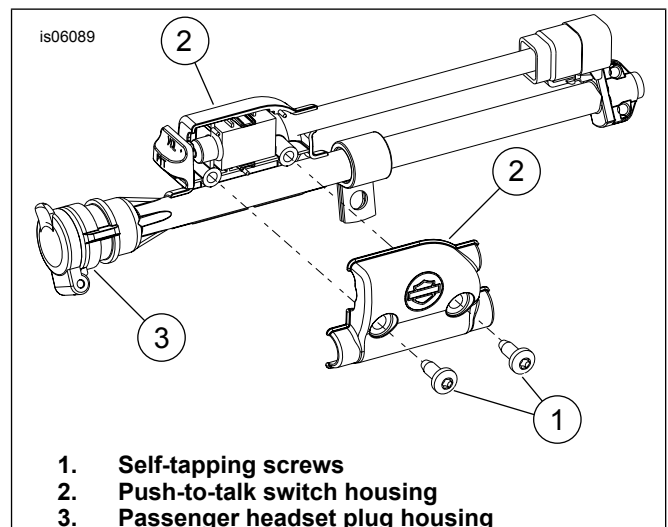

Figure 1. Install Push-to-Talk Switch Housing
1. See Figure 1. Install push-to-talk switch housing (2) to passenger headset plug housing (3), included as part of passenger headset wire harness (see Figure 7, Item 10).
3. Install self-tapping screws (1) to the switch housing but do not fully tighten at this time. Location adjustment may be required based on the motorcycle model, seats and accessories installed on the vehicle.
5. Connect the 8-way connector of the passenger headset wire harness (10) to the mating connector on the Non-Ultra Overlay Harness (installed in Step 1) marked "PASSENGER HEADSET".
6. Connect the 6-way connector of the PTT/VOL jumper harness (22) to the mating connector of the Non-Ultra overlay harness marked "RIGHT REAR SPEAKER CONTROL". Connect the other end of the jumper to the connector on the switch subassembly (1).
7. See Figure 1. Route the 6-way connector [41], push-to-talk switch housing (2) and passenger headset plug housing (3) connector [76] down the left side to the rear fender support cover.
8. Double back the harness so the headset plug housing (3) flip-lid faces the front of the vehicle.